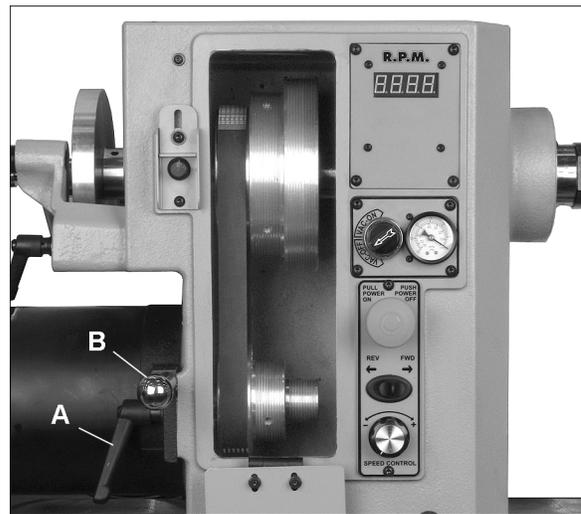

Figure 31
3. Loosen lock handle (A, Figure 31) and lift up handle (B) to raise motor. Tighten lock handle (A) to hold motor in raised position.